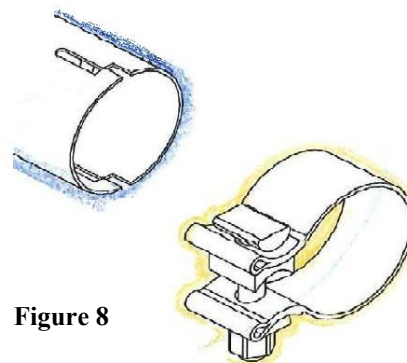

Figure 8
4. Check your exhaust system for proper clearance under the vehicle and also for tip alignment. Starting at front flanges and moving to rear of vehicle, tighten flange hardware bolts. Orient position of bolt (on supplied clamps) between (not over) pipe notches and tighten to 35 ft. lbs. torque. (See Fig.8)